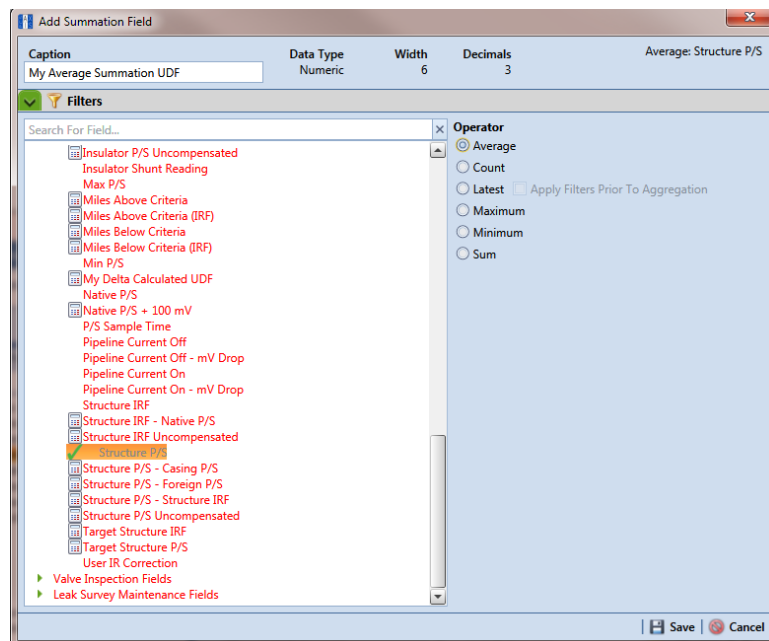

Figure 3-63. Summation Target Field
- 6 Select a target field in the list of fields in the selection panel. For example, click the ► expand arrow for *Test Point Inspection Fields*, then double-click *Structure P/S*. A ✓ green check mark indicates a selection (Figure 3-63, page 115).
- 7 Select an **Operator** option. For example, *Average* is selected in the following figure (Figure 3-63, page 115).